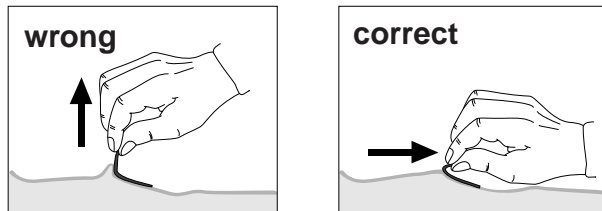

Figure 4-9. Removing the pads
- Carefully remove the electrodes after use (Figure 4-9) and discard them immediately.